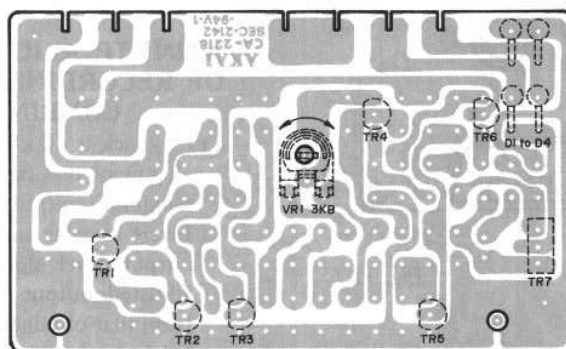

Fig. 10 Servo P.C Board
8. TAPE SPEED ADJUSTMENT (See Fig. 10)
Playback a 1,000 Hz pre-recorded test tape and adjust Servo P.C Board (CA-2218) semi-fixed resistor VR1 (3 k Ω) shown in Fig. 10 to obtain a tape speed of 1,000 Hz $\pm$ 0.5%.